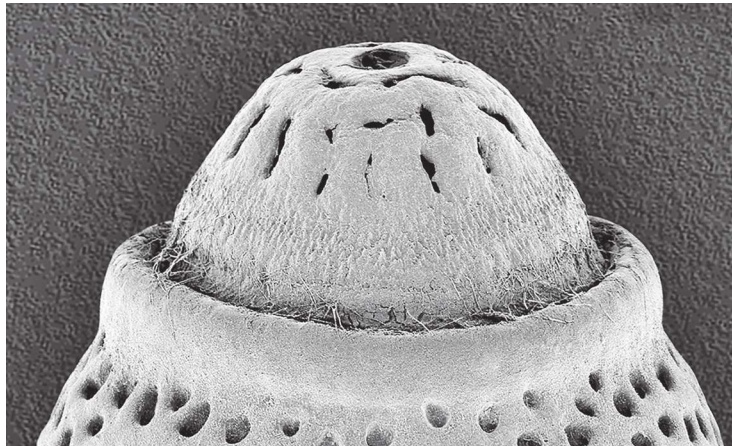

Fig. 2.1
- 2 Fig. 2.1 is a photomicrograph of part of an egg case from a species of stick insect, *Acrophylla titan*.
- (a) (i)** Draw a large diagram of the part of the egg case shown in Fig. 2.1.